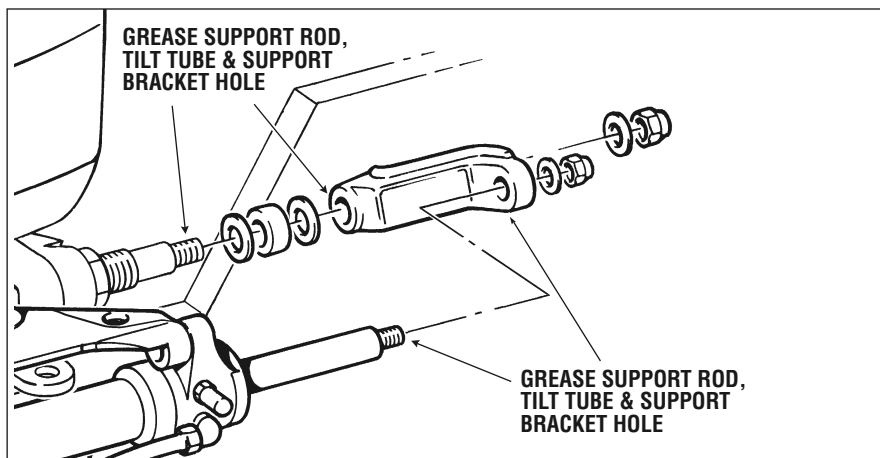

Figure 38.
4. Grease all contact points shown in Figure 38. DO NOT remove tiller bolt to re-grease.